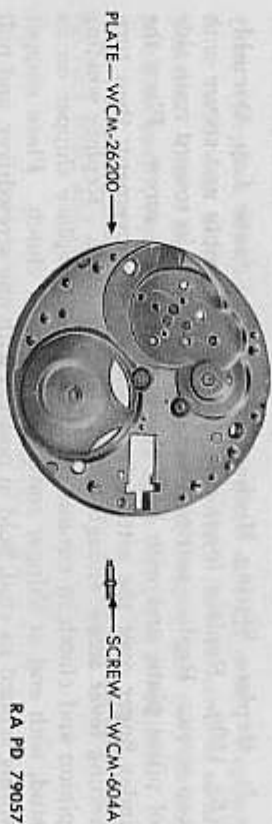

Figure 164 — Waltham Wrist Watch — Pillar Plate With Setting Lever Screw Removed
o. Remove Setting Lever Screw (fig. 164). Lift the setting lever screw off the pillar plate. This completes the disassembly of the movement, stripping it down to the pillar plate and leaving only the hole jewel assembly settings in place.
b. Replace Setting Lever Screw (fig. 164). Place pillar plate on proper size movement block and replace setting lever screw in its hole.